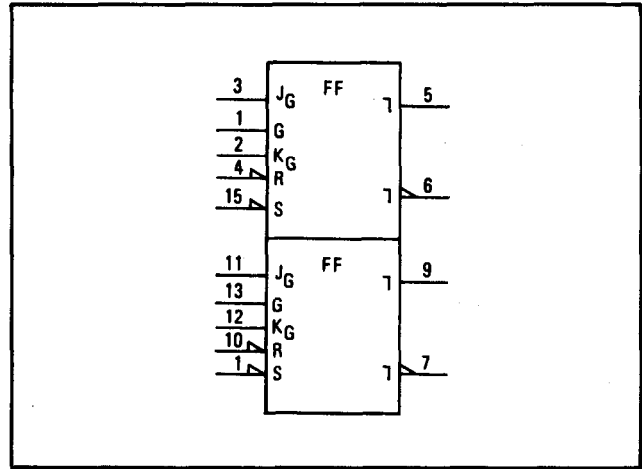

Figure 8-7. Dual J-K Edge-Triggered Flip-Flop
**8-39. Dual J-K Edge-Triggered Flip-Flop.** The dual J-K edge-triggered flip-flop shown in Figure 8-7 is functionally identical to the master/slave flip-flop described previously except for gate pulse timing. The edge-triggered flip-flop response is determined by the levels present at the J and K inputs at the instant that a negative gate transition (high-to-low) occurs.